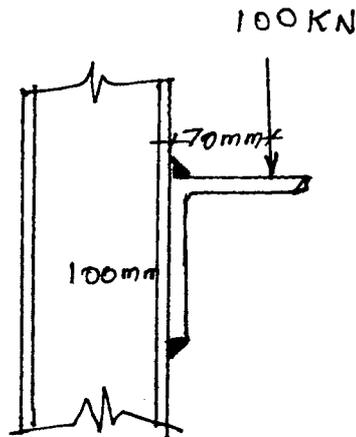

Fig. 1
- (b) A bracket carrying a load of 100 kN is connected to column by means of two horizontal fillet welds, of 130 mm effective length and 10 mm thick. The load acts at 70 mm from the face of the column as shown in Fig. 1. Find the throat stress.